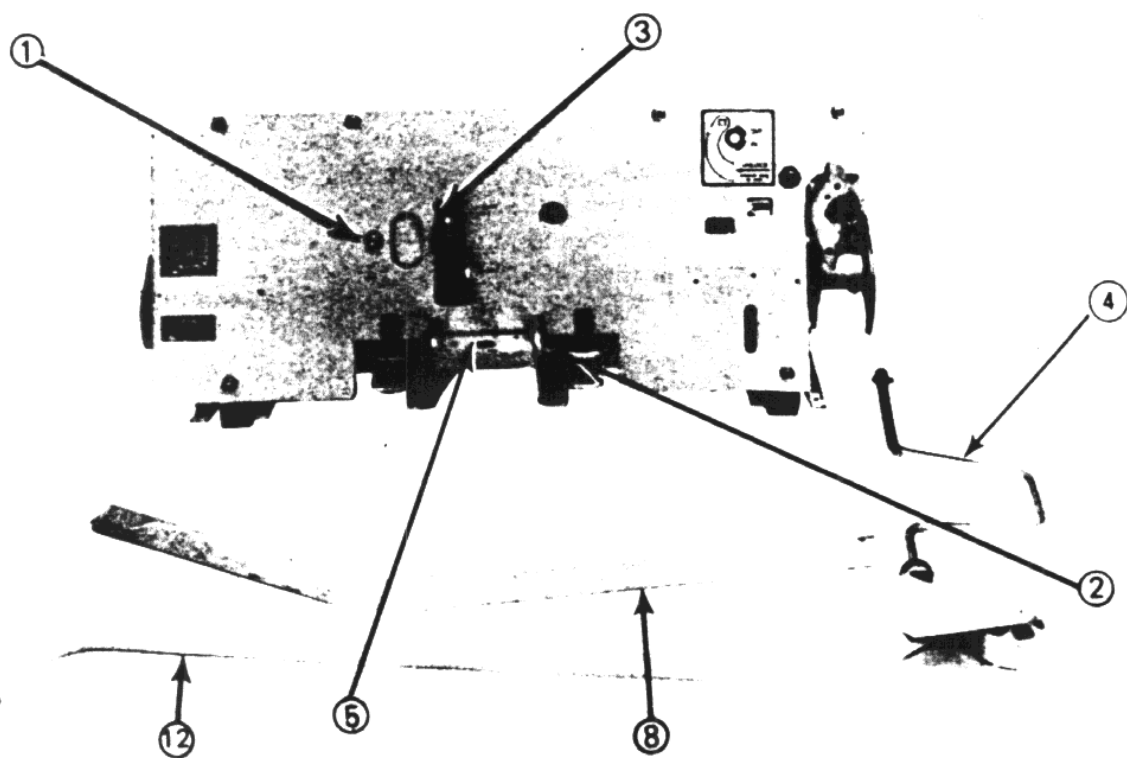

Fig. 3 — Front Circuit Breaker Panel & Accessories
Installing Circuit Breaker Into Compartment (See Figs. 3 & 4)
Turn motor disconnect switch (1, Fig. 3) to "OFF" position.
For installing the circuit breaker into the lower compartment, the fifth wheel is used to position the breaker so that it is lined up with the switchgear. Engage the fifth wheel (12, Fig. 3) with hole (5, Fig. 3). A lift device is required to lift and position the breaker for installation into the upper compartment. Guide and push circuit
With the circuit breaker racked to "TEST" position, it should be checked for proper operation by operating all possible means of opening and closing, this includes control switches, relays, etc. Turn motor disconnect switch (1, Fig. 3) to "ON" position to charge the closing springs, and operate the breaker as required.
2. Fully Closed Breaker Test (See Fig. 3). Charge the closing springs and turn the motor switch (1) off. Close the breaker. Engage manual charge handle (8) with charging lever (3). During the initial portion of the downward stroke of the handle check to see which direction the closing spring guides (2) move. If the spring guides start to move out then the breaker did fully close. If the spring guides begin to move in and with additional pumping moves in until the mechanism can be heard to "snap in", then the breaker did not fully close originally. Excess contact pressure or friction can cause this condition and if it cannot be relieved then the factory should be consulted.